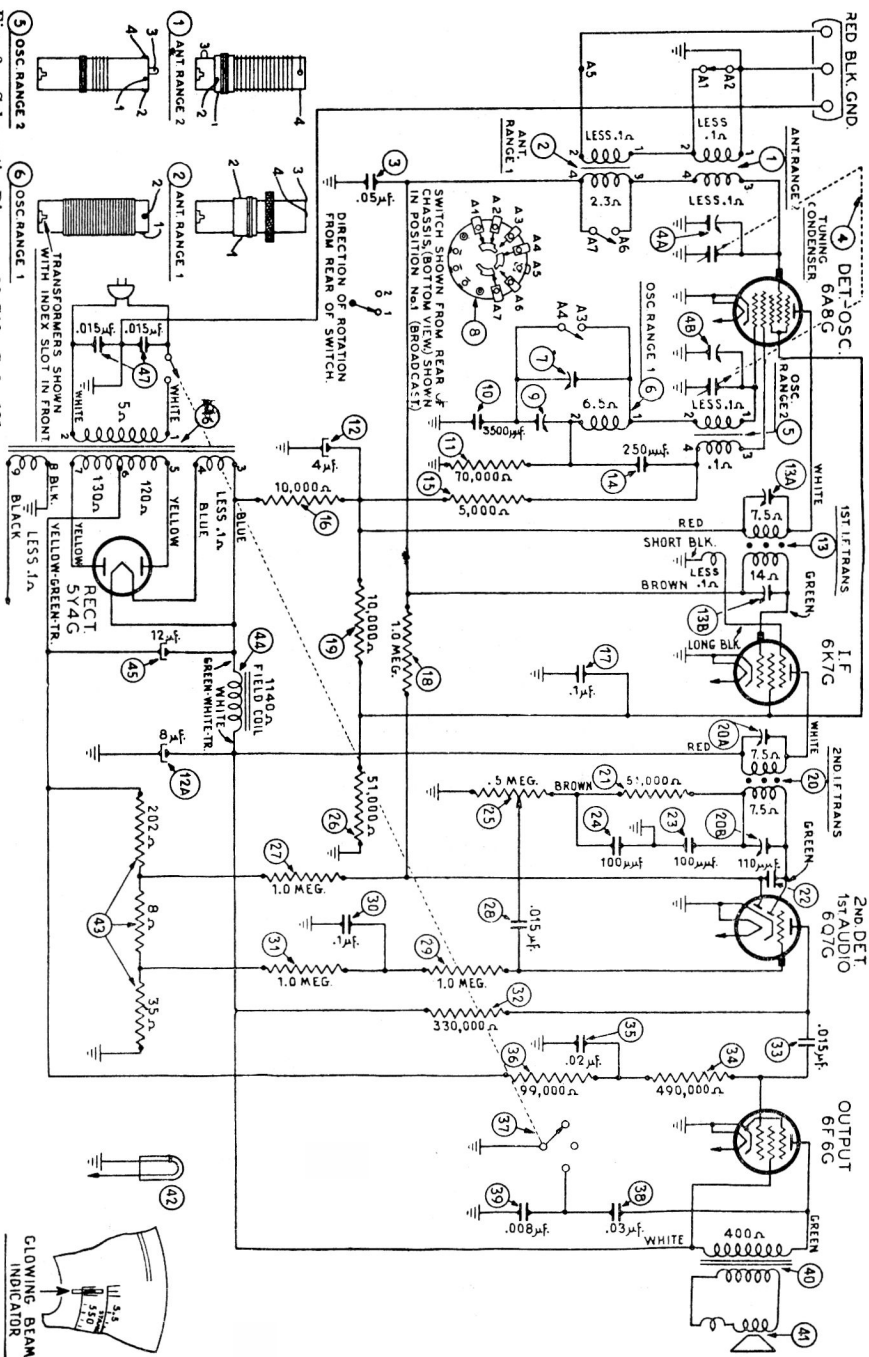

Fig. 3. Schematic Diagram 38-C10, Code 121
2. Holding the tuning condenser in this position, loosen the clamp and turn the dial until the indicator is centered on the middle index line (See Fig. 3). Tighten clamp with dial in this position.